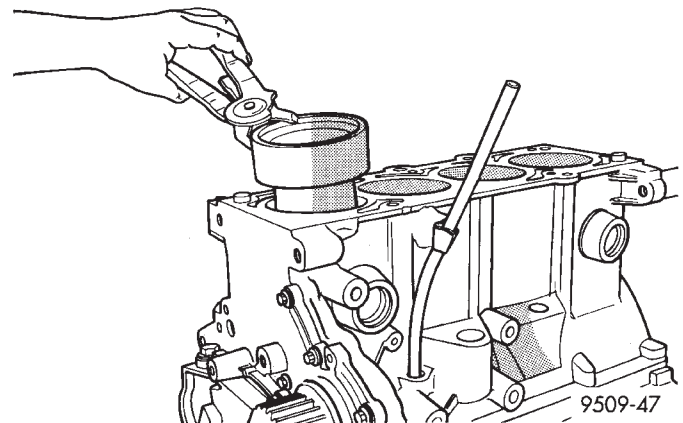

Fig. 120 Installing Piston
(3) Immerse the piston head and rings in clean engine oil, slide the ring compressor, over the piston (Fig. 120). **Be sure position of rings does not change during this operation.**
(4) The weight stamp designation L or H will be in the front half of the piston should face toward the front of the engine for SOHC engine. The arrow